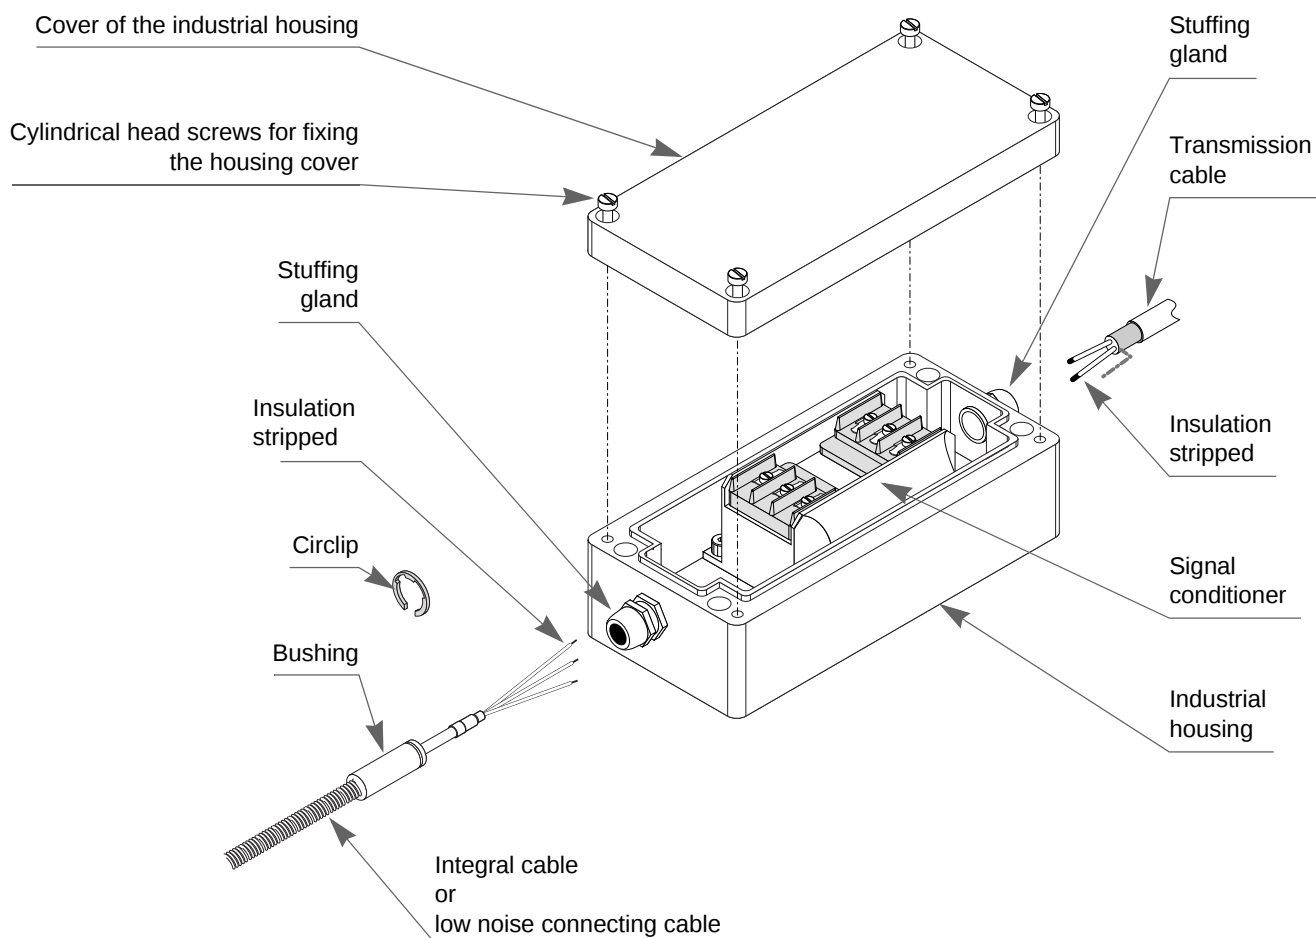

Figure 4-5 : Connecting cables to an IPC 704 signal conditioner
- 4- Remove the cover of the industrial housing (see Figure 4-5).
- 2- Strip the insulation off the wires in the soft-line cable assembly and the transmission cable (see Figure 4-5).
- 5- Connect the wires of the integral cable (or connecting cable assembly) and the transmission cable to the terminal strips on the signal conditioner (see Figure 4-5).
- 6- If the cable has a flexible stainless steel protection tube, place the Ø 8 circlip into the groove in the cable bushing (see Figure 4-5). This prevents the cable from slipping out of the stuffing gland.
- 5- Place the Ø 8 circlip (supplied with the pressure transducer) into the groove in the cable bushing (see Figure 4-5). This prevents the integral cable from slipping out of the stuffing gland.